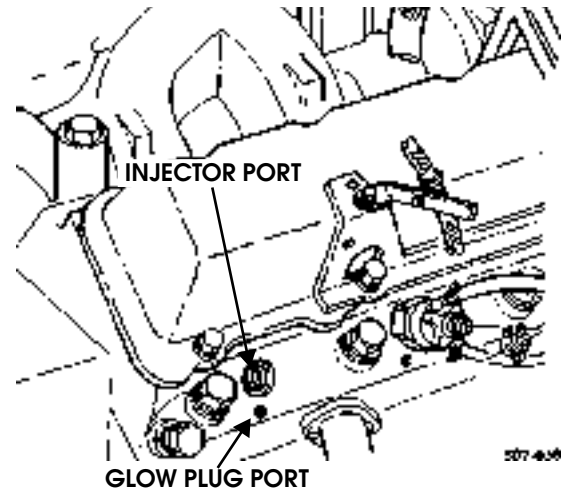

Figure 3-48: Glow Plug and Injector Port Locations
3. Using pliers, reach through injector nozzle port (Figure 3-48), break off expanded tip, and remove from prechamber.